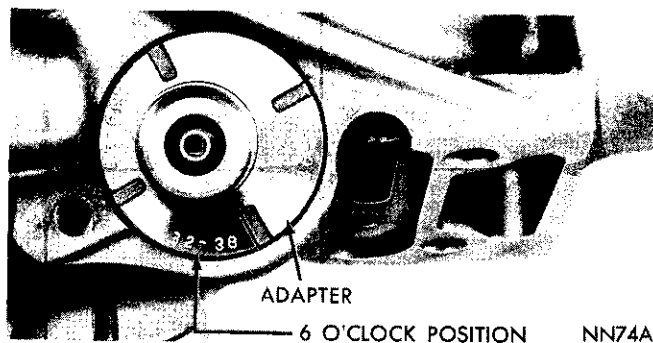
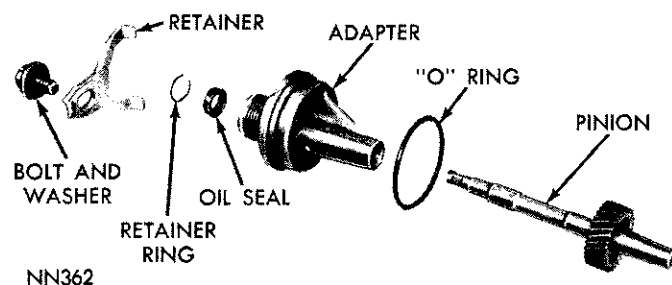
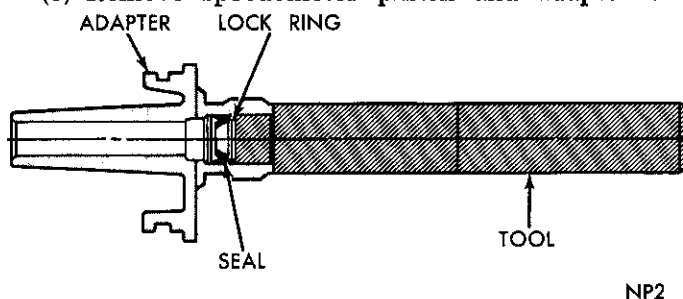

Fig. 18—Speedometer Pinion and Adapter—Installed (Retainer Removed for View)
Fig. 19—Speedometer Drive
Fig. 20—Installing Speedometer Pinion Seal
(1) Remove bolt and retainer securing speedometer pinion adapter in the extension housing (Fig. 18).
(2) With cable housing connected, carefully work adapter and pinion out of the extension housing.
(3) If transmission fluid is found in cable housing, replace seal in the adapter (Fig. 19). Start seal and retainer ring in the adapter, then push them into adapter with Tool C-4004 until tool bottoms (Fig. 20).
(4) Note number of gear teeth and install speedometer pinion gear into adapter (Fig. 19).
(5) Rotate the speedometer pinion gear and adapter assembly so that the number on the adapter, corresponding to the number of teeth on the gear, is in the 6 o'clock position as the assembly is installed (Fig. 18).
(6) Install retainer and bolt, with retainer tangs in adapter positioning slots. Tap adapter firmly into the extension housing and tighten retainer bolt to 100 inch-pounds.
sembly (Fig. 18). Drain approximately two quarts of fluid from the transmission.